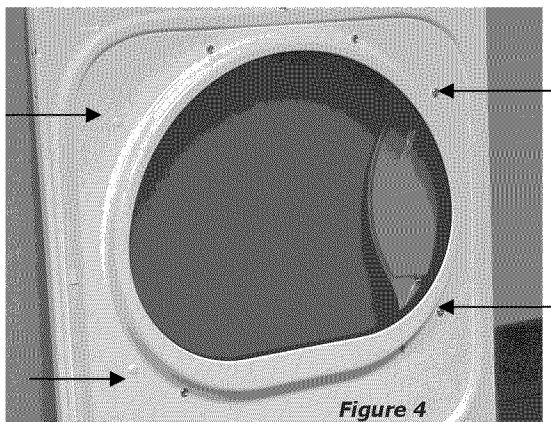

Figure 4
- 5 Remove two door handle screws and two hole plugs from door. (Figure 4)